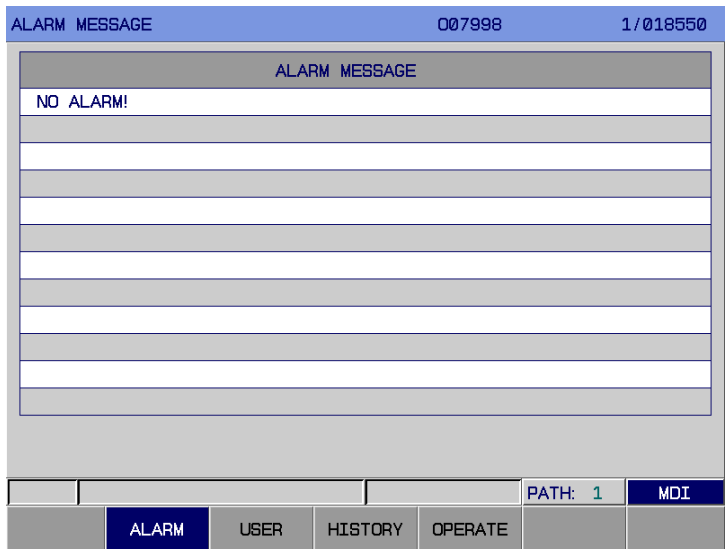
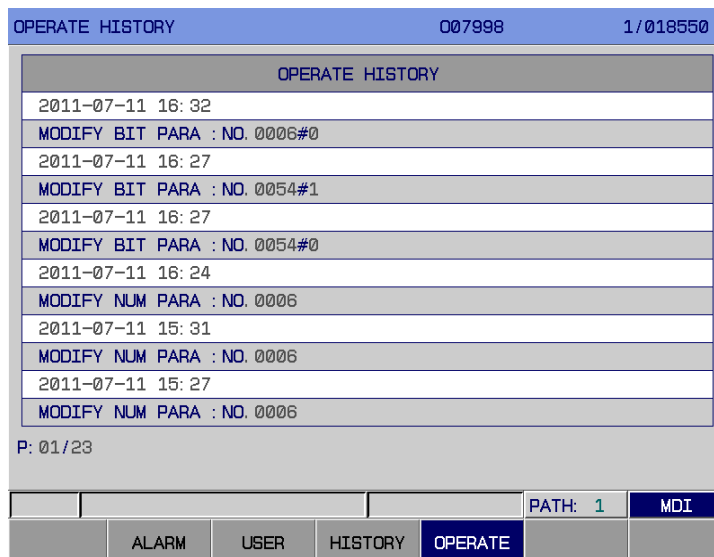

Fig. 3-7-1
Fig. 3-7-4
There are four display interfaces in this page: **【ALARM】**, **【USER】**, **【HISTORY】**, **【RECORD】**, which can be checked (Refer to the Fig. 3-7-1~ Fig.3-7-4) by its corresponding softkey. Alternatively, whether shifting to the alarm interface when bit 6 of parameter No.: 24 alarm occurs.
1. Alarm interface Enter the alarm interface by **【ALARM】** softkey in <ALARM> interface, refer to the Fig. 3-7-1:
4. Record interface Enter the external alarm interface by【RECORD】softkey in <ALARM> interface, refer to the Fig. 3-7-4: